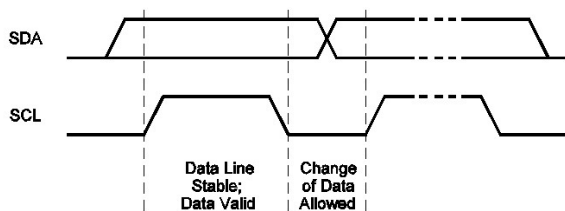

Figure 4: Bit Transfer on the I²C Bus
One clock pulse is generated for each data bit transferred. The data on the SDA line must be stable during the high period of the clock. The high or low state of the data line can only change when the clock signal on the SCL line is low (see Figure 4).
Start and stop conditions are signaled by the master device, which signifies the beginning and the end of the I²C transfer. A start condition (S) is defined as the SDA signal transitioning from high to low while the SCL is high. A stop condition (P) is defined as the SDA signal transitioning from low to high while the SCL is high (see Figure 4).